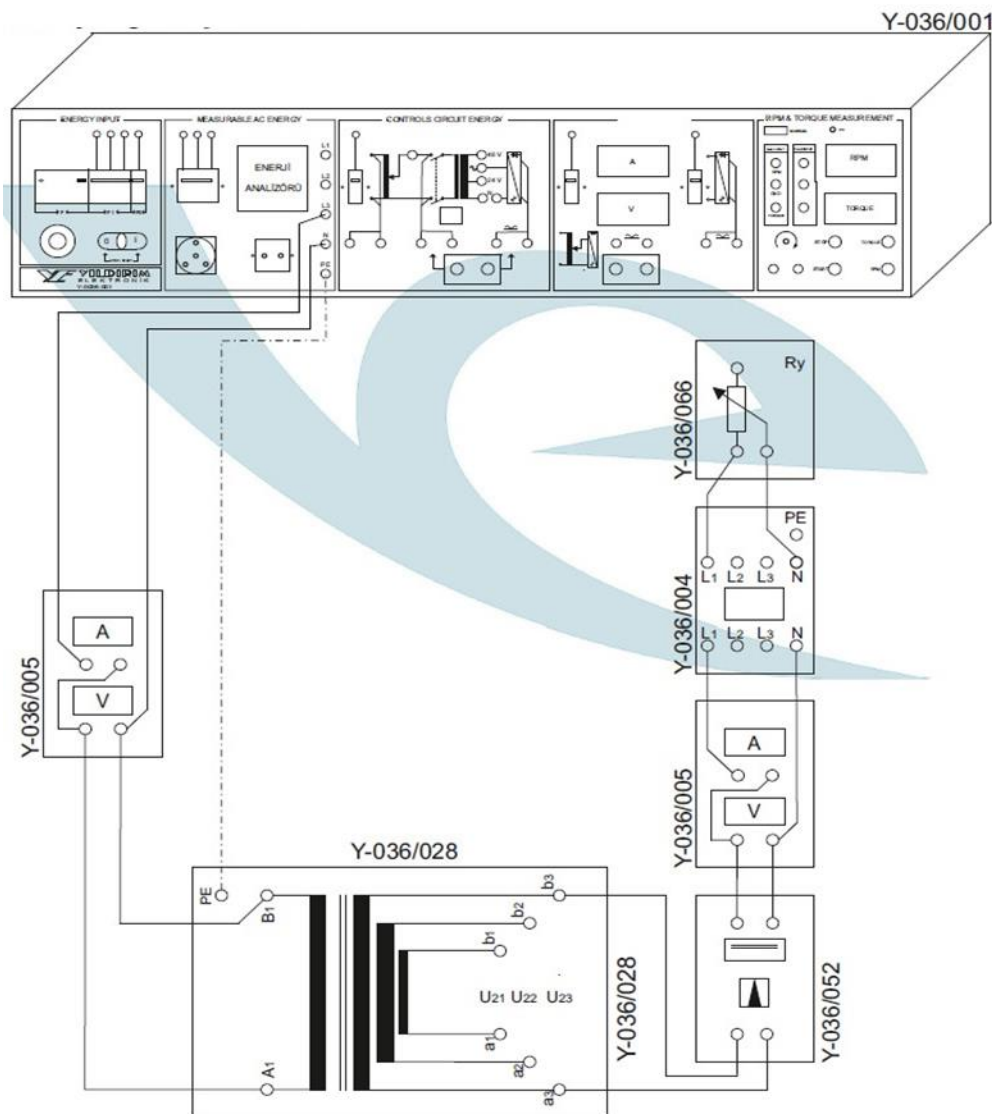

Figure 2. The Connection Diagram for the Loaded Operation Experiment of a Single-Phase Transformer
Experiment Goal: To examine the loaded operation of transformers and analyze the factors affecting regulation and efficiency. The connection diagram of the experiment is provided in Figure 2.
- Experiment Procedure: The transformer allows feeding either with L-N or L-L according to the nominal voltage of the primary. Establish the experiment connection given in Figure 2.